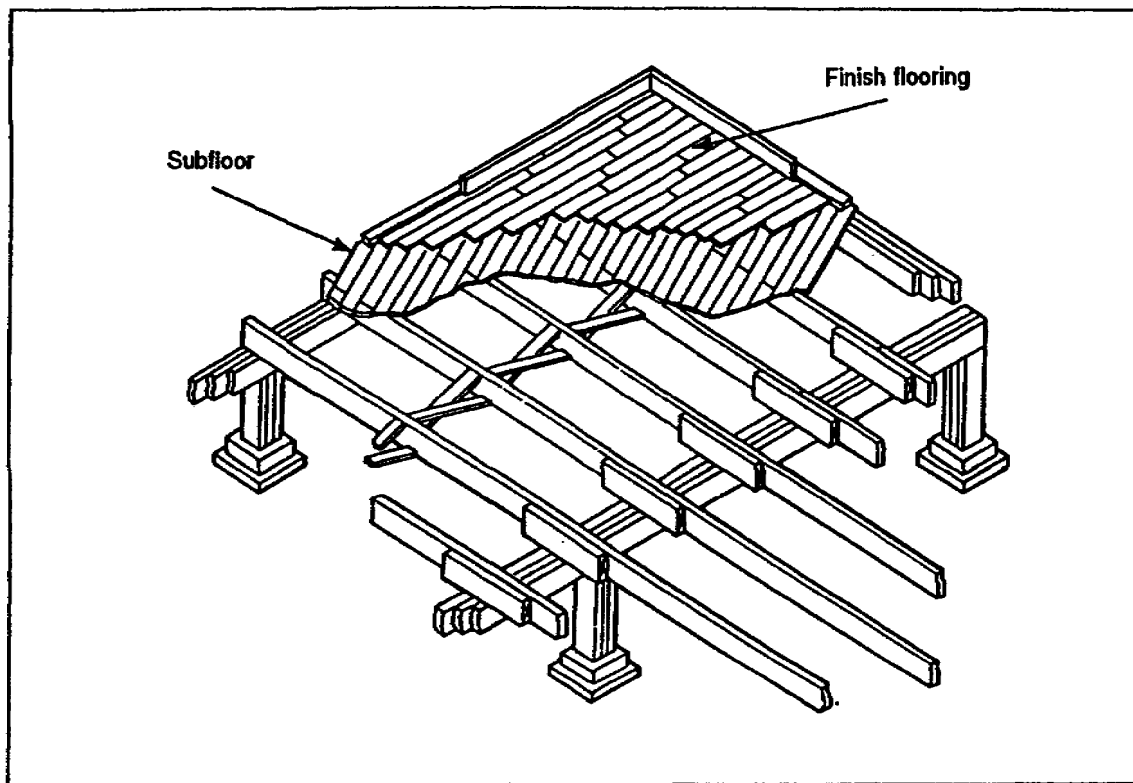

Figure 1-25. Diagonal subflooring
**1-13. Diagonal Subflooring.** Lay diagonal subflooring on the joist framework and nail it in place (See Figure 1-25, page 1-18). Subfloor material can be either 1-inch or 2-inch material.